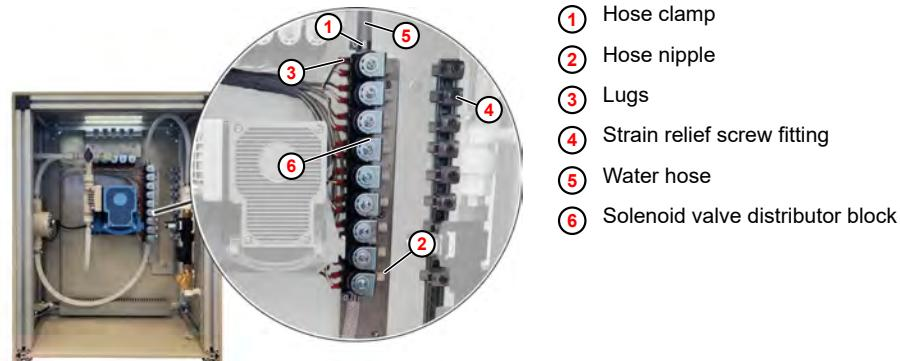

Fig. 13: Disconnecting the solenoid valve distributor block
15. ➤ Install additional strain relief screw fittings ( Fig. 13 , ④ ) on the mounting rail.